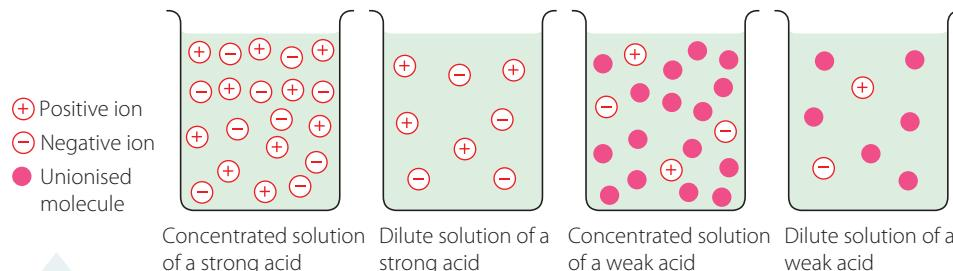

FIGURE 6.10 Concentrated and dilute solutions of a weak and strong acid
- Refer to Figure 6.10 – this shows diagrammatically the difference between strong, weak, concentrated and dilute acids.